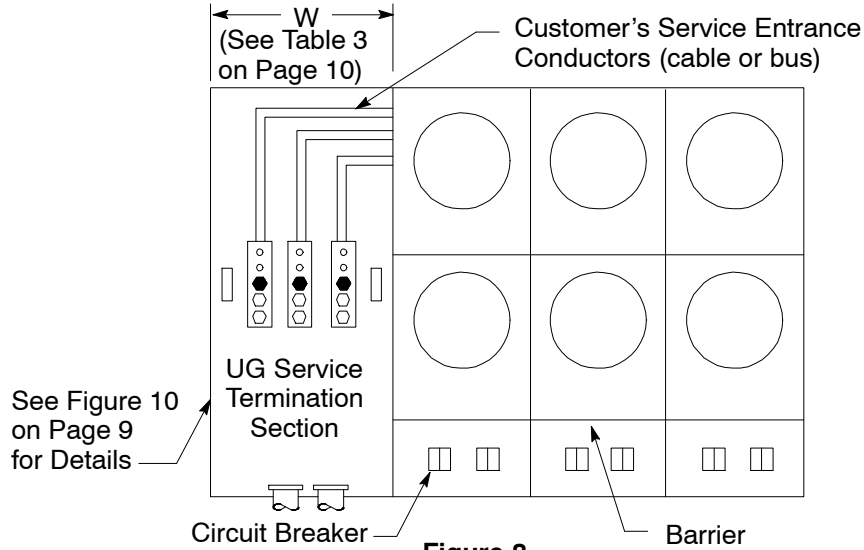
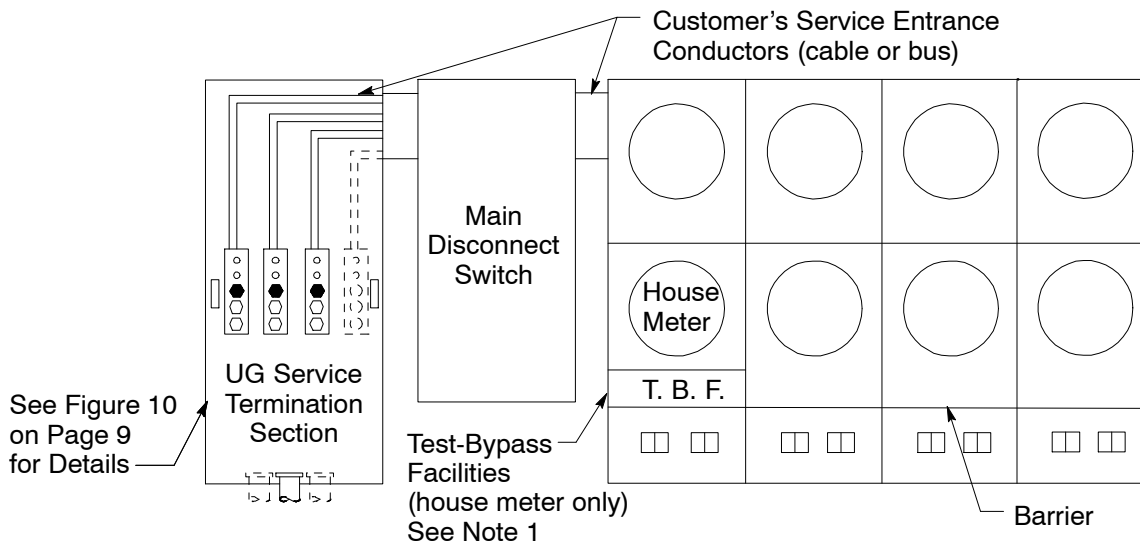

Figure 8
Figure 9
- (1) Wall-mounted underground service pull section and termination box for service 0 through 600 amp (see Figure 9 on Page 8), or combination service termination enclosure and meter socket panel, 0 through 600 amp (see Figure 8 on Page 8).
- (2) Underground service pull and termination section of a floor-standing switchboard (see Document 063929 to determine when bus duct termination equipment is required).
B. When a multi-unit residential meter panel services either a three-phase or a larger than 200-amp single-phase house (utility) load, it shall be equipped with approved test-bypass facilities (see Figure 9 on Page 8).
1. When a multi-unit residential meter socket panel will have either a three-phase, or a larger than 200-amp single-phase house (utility) meter, the socket for this meter shall be equipped with test-bypass facilities (see Figure 9).